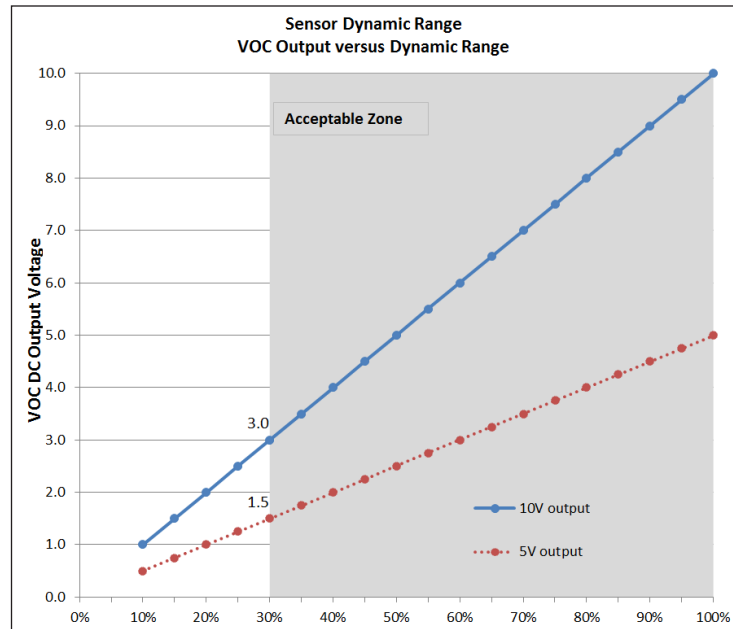

Fig. 8: Acceptable Dynamic Range Output Graph
- Use the graph in Fig. 8 to determine dynamic range.
The VOC algorithm requires a dynamic range of greater than 30% for proper operation. Sensors reporting a dynamic range of 30% or less should be considered for replacement. (See Fig. 8)